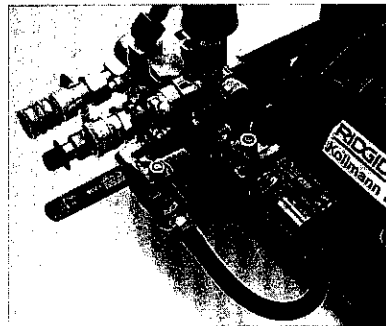

Figure 5. At start-up both green and blue valves are "OFF".
**At Start-Up**, both the green and blue valves must be in the "OFF" position. (Figure 5)